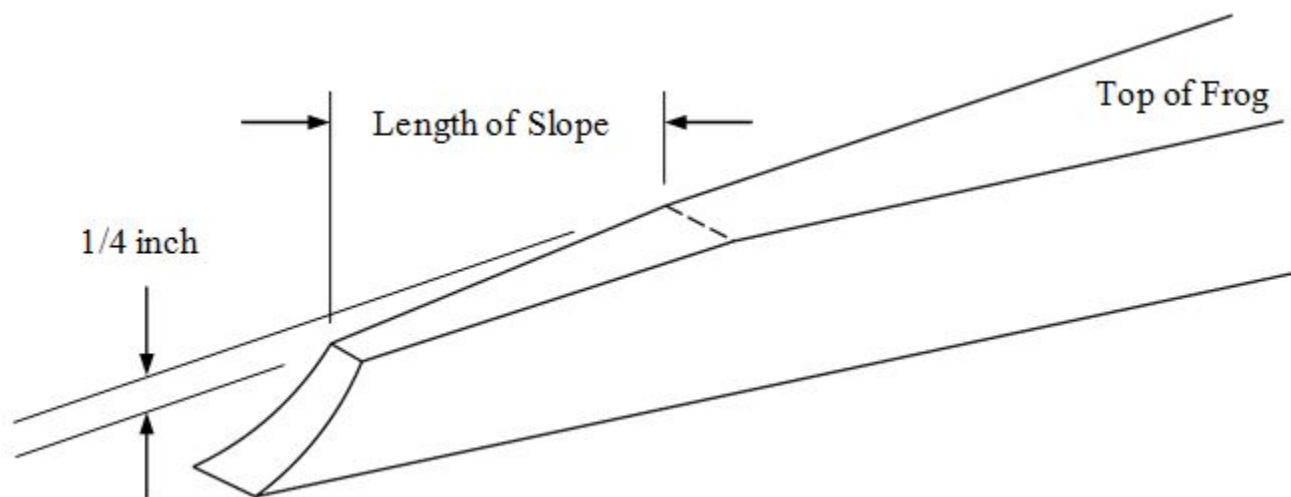

Figure 108B *Frog Point Length of Slope*
3. On turnout frogs, make sure the point at the tip is 1/4 inch lower than the adjacent wings and is sloped upward, so that the point and wings are level at a distance back from the point equal in inches to the number of the frog. (See Figure 108B)